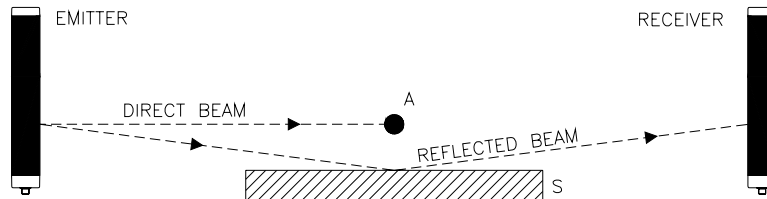

Figure 8 - Reflective surfaces
**⚠** The presence of reflective surfaces close to the light curtain may cause occasional reflections that prevent sensing. Referring to Figure 8, object A is not detected due to surface S that, reflecting the beam, closes the optical path between the Emitter and Receiver. Therefore, a minimum distance  $d$  must be maintained between any reflecting surfaces and the guarded area. The minimum distance  $d$  must be calculated according to the distance  $l$  between the Emitter and Receiver and taking into account that the angle of projection and reception is  $5^\circ$ .